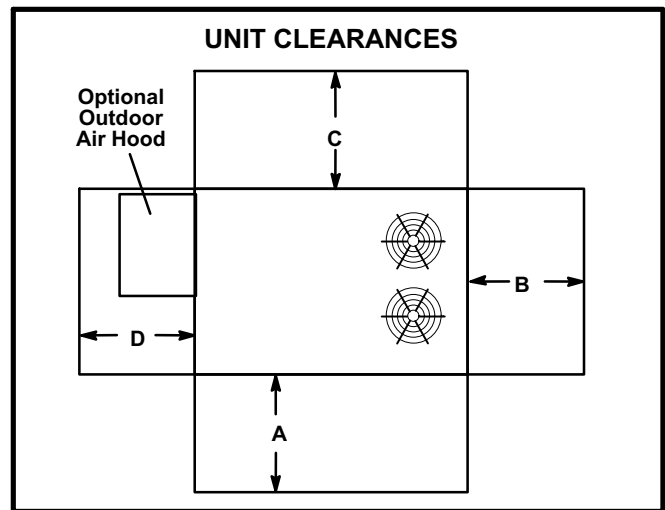

FIGURE 1
The KHA/KHB unit is ETL/CSA certified for outdoor installations only at the clearances to combustible materials listed on unit nameplate and in figure 1.
The KHA/KHB unit is ETL/CSA certified as a heat pump with cooling and with or without auxiliary electric heat for non-residential use only at the clearances to combustible materials as listed on the unit nameplate and in figure 1.
- 2- Specified installation clearances must be maintained when installing units. Refer to figure 1.